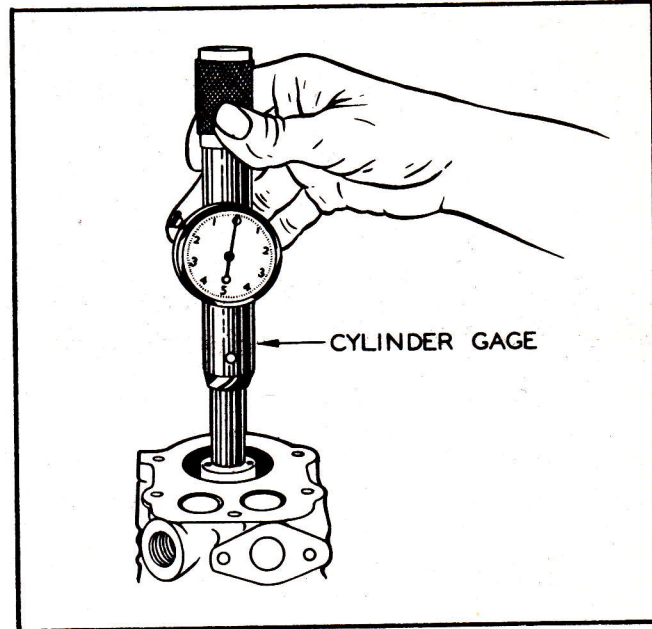

Figure No. 17
5. Measure the cylinder with a dial gage (See Figure No. 17) and rebores to the nearest available oversize (Pistons and piston rings are available in standard oversizes .005, .010 and .020 inch, and special oversizes .030 and .040.) Exact reboring permits installing the piston without further measurement.